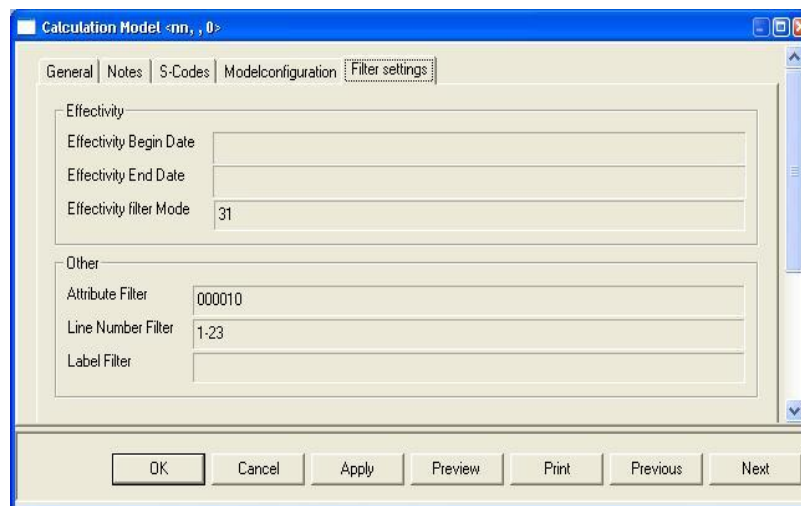

Figure 74: View Line Number Filter in Project Node
- 7) To view the Line Number, click **Filter Settings** tab. *Please refer to the Figure 74.*